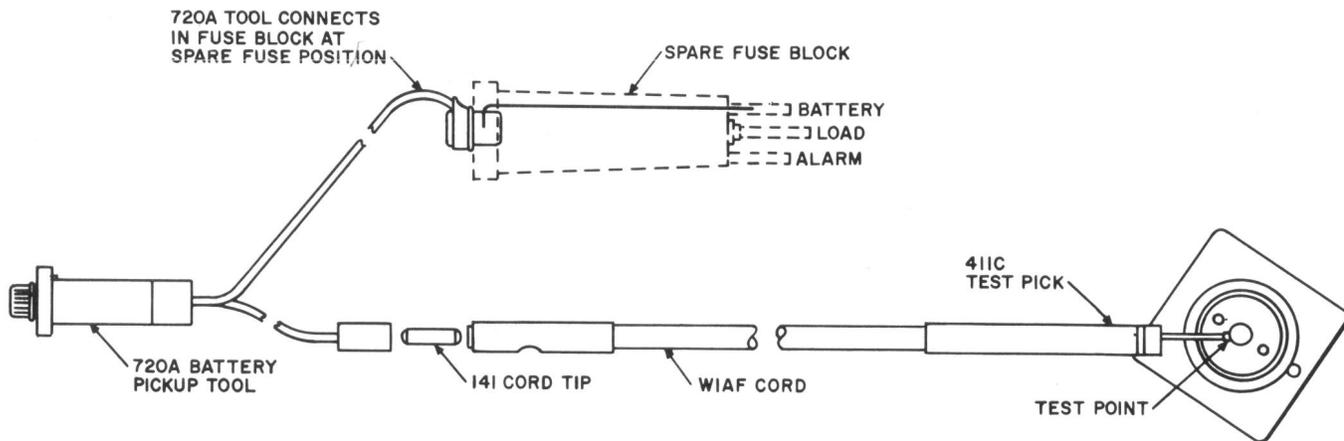

Fig. 3—Fuse Alarm Testing Cord—Tool Connection
(1) Prepare an alarm test cord (Fig. 3) by connecting one end of a W1AF testing cord to a 141 cord tip and a 720A voltage pickup tool. (The KS-6278 connecting clip may be used to replace the 720A voltage pickup tool.) On the opposite end of the W1AF testing cord, connect a 411C test tool.